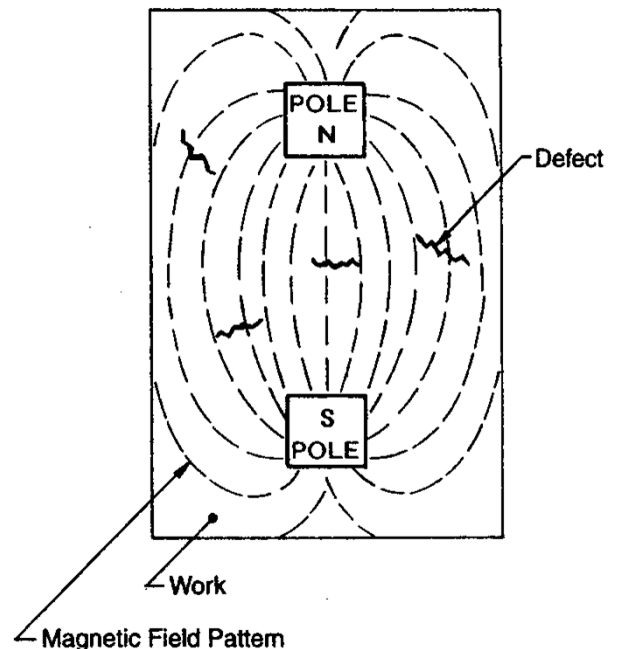

FIG. 2
**OPERATION:** Connect the instrument plug into a Grounded power outlet of proper voltage. Place the Contour Probe legs upon the work surface with the suspected defect at right angles to the legs (Good contact will produce the best results). Push the test switch to energize the instrument. Lightly dust or float dry magnetic inspection powder over the area being inspected. Defect indications will be revealed in a direction shown on figure 2. Turn the Probe 90 degrees from the first test and repeat the process. This method may also be utilized when applying a